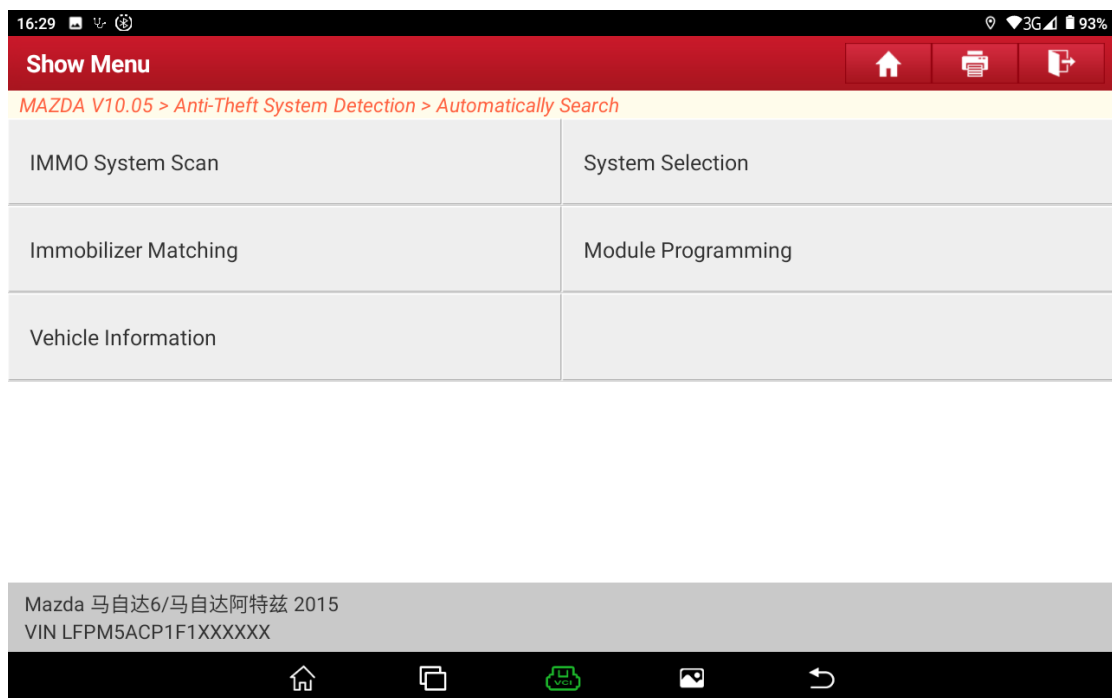

Figure B6
4. Choose [Module Programming]. See Figure B6.